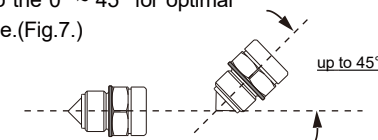

Fig.7
- We recommend the following installation below. The horizontal plane parallel to the 0° ~ 45° for optimal installation angle. (Fig.7.)